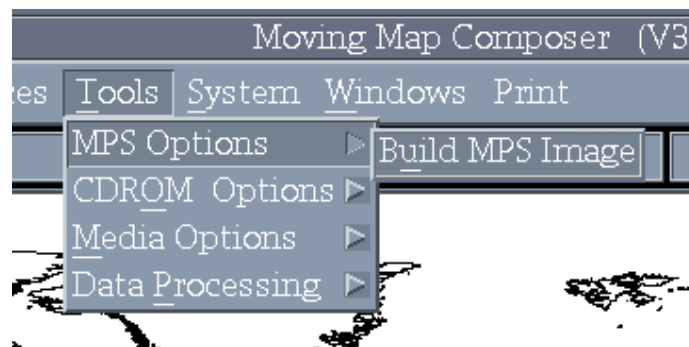

Fig. 23 – MPS Options menu
- a. From the main menu, click on *Tools*, then *MPS Options*, then *Build MPS Image* (Fig. 23).